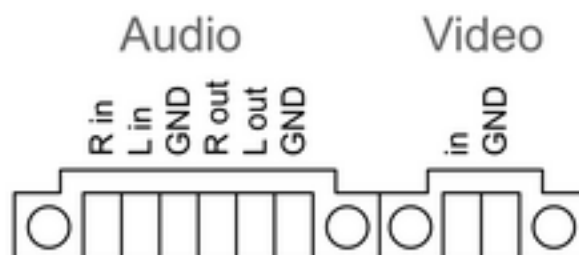

Figure 7: Connection assignment, audio and video connections
- Connect the mains voltage **L** and **N** to terminal (33).
- Connect audio devices to terminal (35) (Figure 7).
- Connection the video device to terminal (36) (Figure 7).